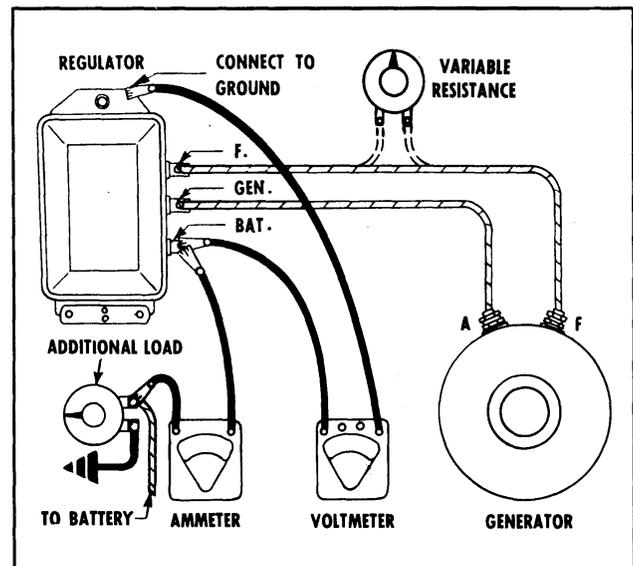

Fig. 13-13 Checking Current Regulator Setting
1. Connect an ammeter into the charging circuit. (See Fig. 13-13)
2. Turn on all accessory load (lights, radio, etc.) and connect a load (resistor) across the battery so as to drop the system voltage 12.5 to 13.0 volts. (See Fig. 13-13)